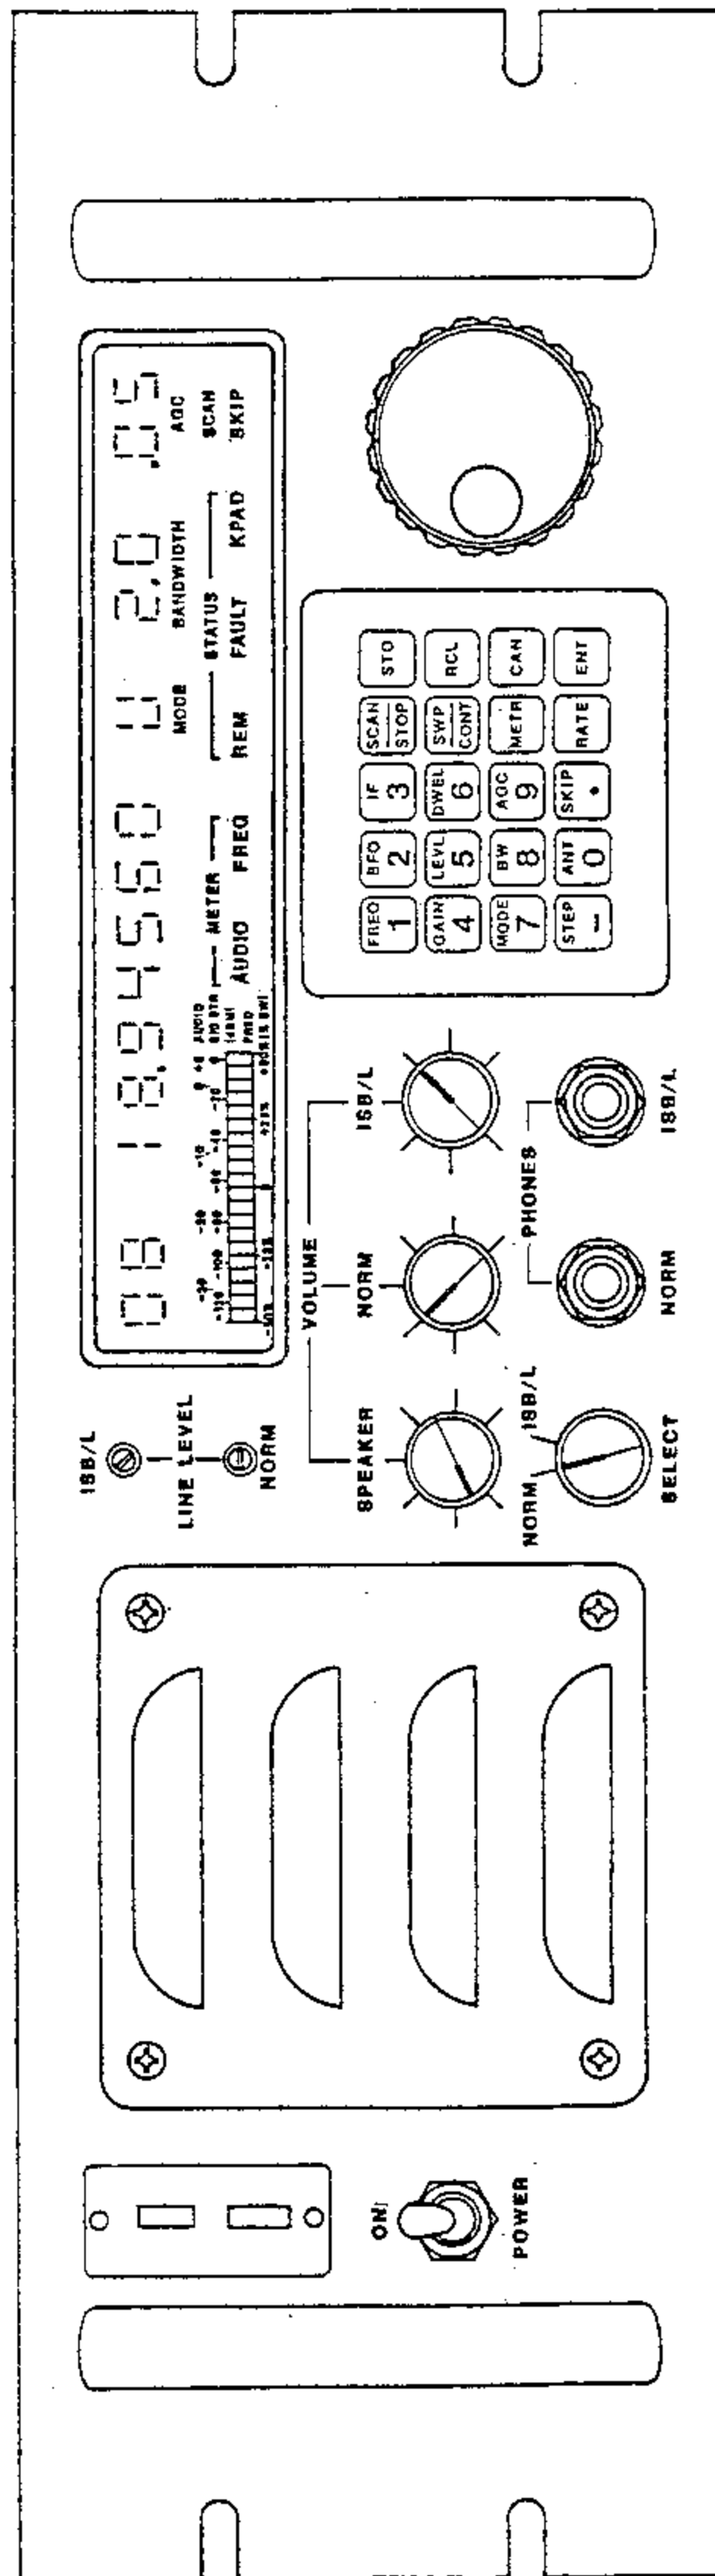

Figure 1-1. R-3050 Front View.
**1-2 EQUIPMENT DESCRIPTION.** The R-3050 (figure 1-1) is a high performance multi-mode receiver with a frequency range from 5 kHz to 30 MHz. The receiver can be operated locally (manually) or remotely. In remote control, the receiver is assigned a unique address and can be operated in groups of up to 14 receivers using an IEEE-488 remote control bus, or in groups of up to 30 receivers using a serial control bus.